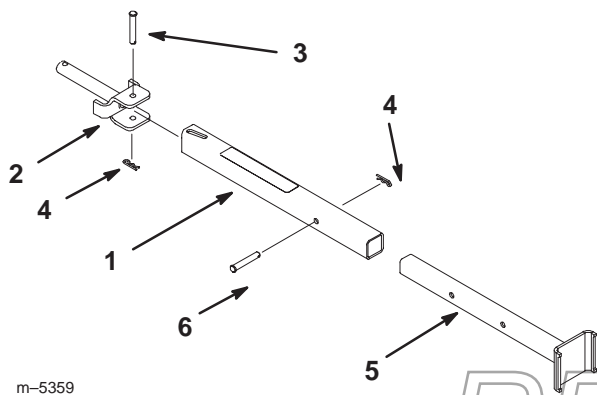

Figure 3
1. Place the foot part of stand into the Z-Stand tube. Align holes and secure with a clevis pin (2-5/8 in.) and hair pin cotter (Fig. 3).
2. Install Z-Stand assembly to the pivot pin with a clevis pin (3 in.) and hair pin cotter (Fig. 3).
Note: When inserting the pivot pin, make sure the position of slot in tube is as shown in figure 3.